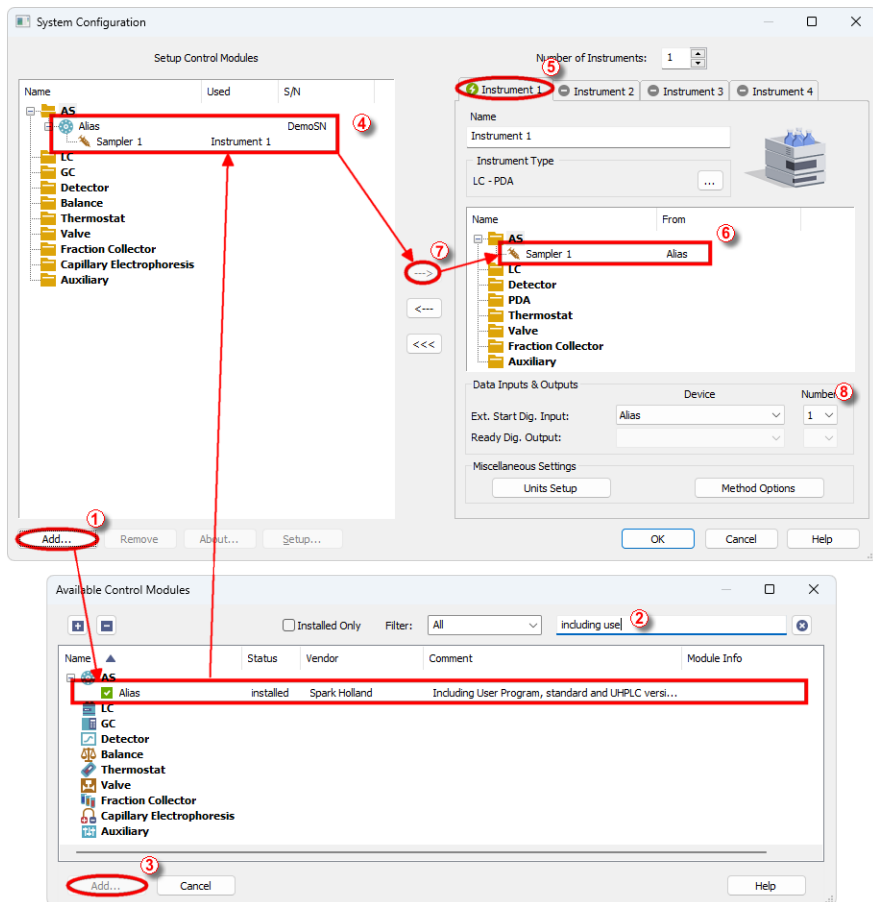

Fig. 4: System Configuration
- Press the *Add* button ① (see Fig. 4 on pg. 7.) to invoke the *Available Control Modules* dialog.
- You can specify the searching filter ② to simplify the finding of the driver.
- Select the **Alias** sampler and press the *Add* ③ button.